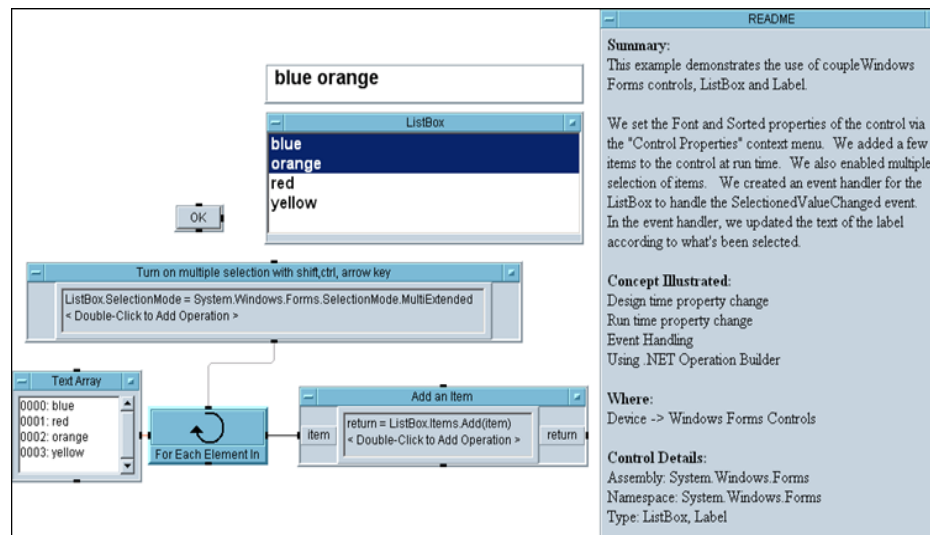

Figure 4-7 ListBox while running
- 3 Save it as EXER04.3; run this program; select two or three colors by holding down Shift; see Figure 4-7.